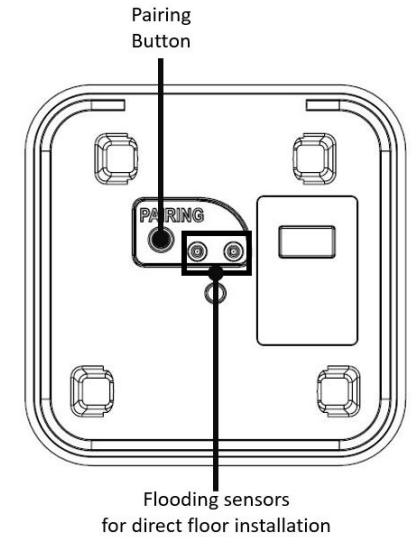

Figure 2
4. Press the "Pairing" button located at the back of the device (figure 2) and wait until Green/Red LED stops blinking.